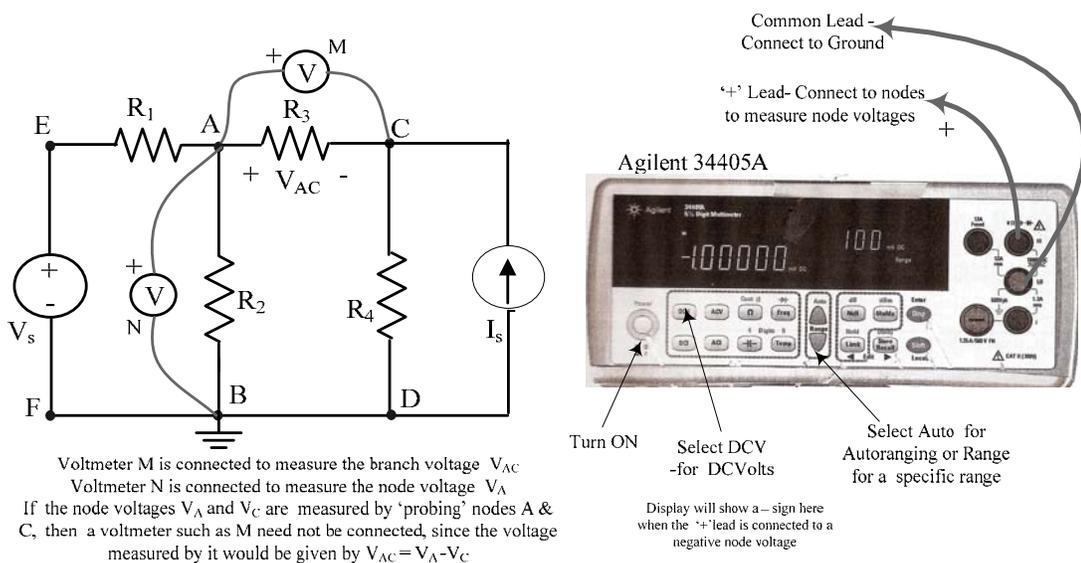

Figure 1.4 : DC voltage measurement [using the Agilent 34405A as example]
Voltage definitions & measurement: A 'branch voltage' is defined as the voltage across the element constituting the circuit branch. It can be measured by connecting a voltmeter in parallel with the branch. For example in the same circuit as above, shown again in Figure 1.4, voltmeter M is connected to measure the branch voltage between nodes 'A' and 'C', designated by the double-subscripted quantity V_{AC} , where node 'A' is taken to be positive with respect to node 'C', by convention. Branch voltages can be more conveniently obtained by measuring the node voltages, which are the voltages between every node and an arbitrarily-chosen reference node, called the 'ground' [In Figure 1.4 node 'B' is indicated as being the 'ground' by its connection to the associated ground symbol.] Node voltages are easily measured by 'probing' every node using a 'grounded' voltmeter such as voltmeter N in Figure 1.4,
4. Set the Agilent 34405A DMM to the DCV-Auto mode and measure the node voltages V_E, V_A and V_C [with F(B,D) as ground] and enter their values in the LAB RECORD. [Recall the node voltage measurements given earlier in Figure 1.4]
5. **Results (DC) :**